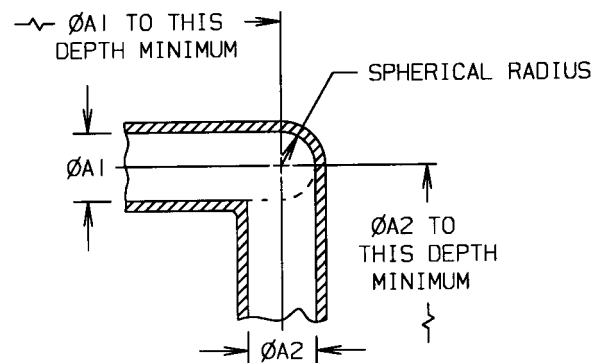

FIGURE 3 - 90° Elbow, Non-Reducer
- 3.2.1 The suggested sequence of production of the internal passage holes with their contours and limits of size for the four basic shapes, 90° elbow, 45° elbow, tee and cross, are shown in Figures 3 through 14.